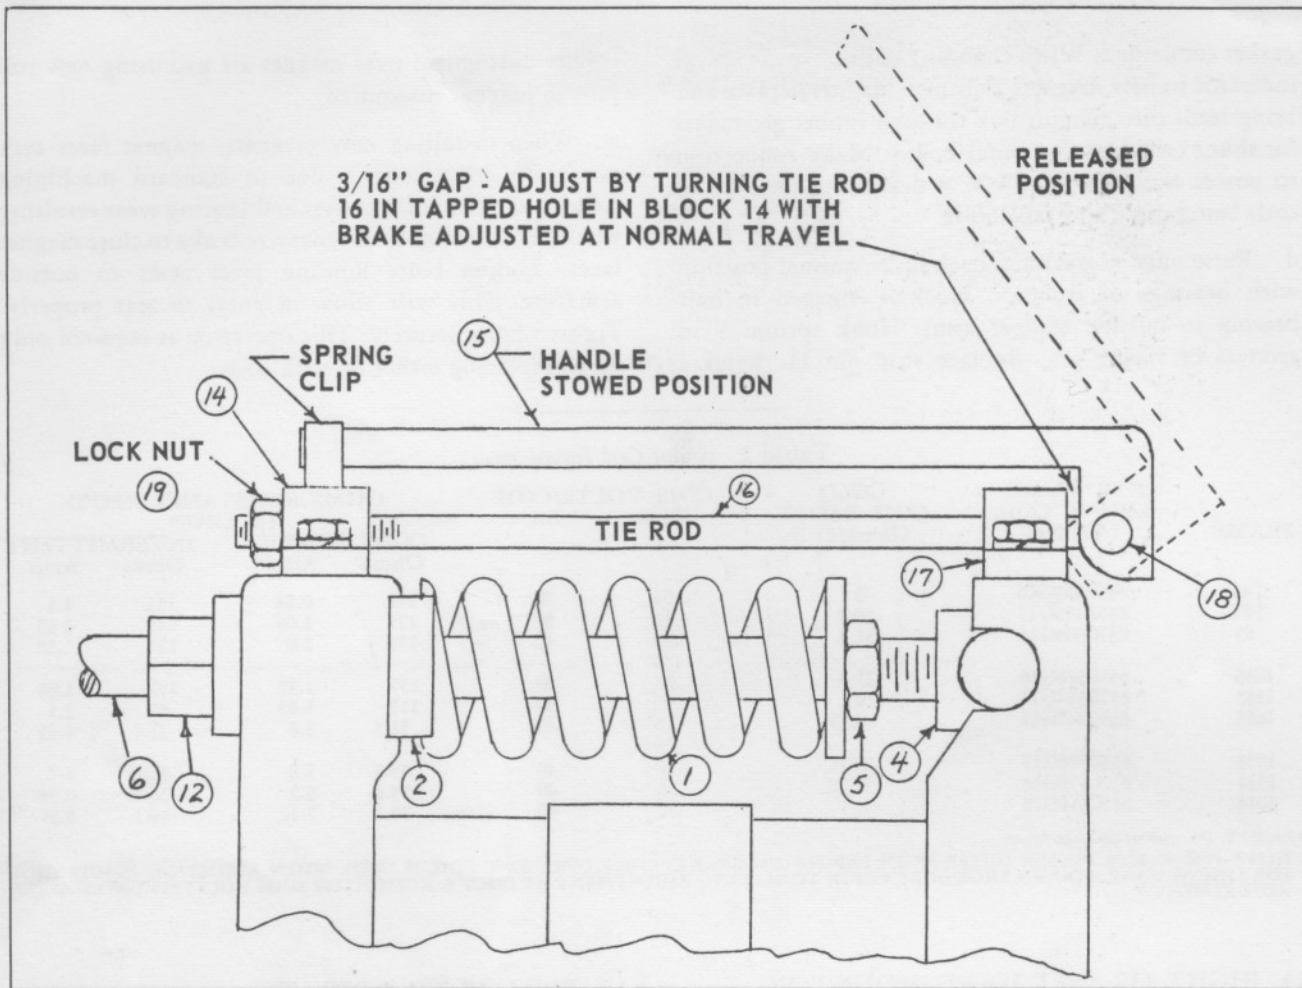

Fig. 5. Hand Release
When specified on order, a lever-type hand release is available as optional at extra cost. Figure 5 shows simple mechanism used on open brakes allowing quick release of brake torque as for lowering a load in case of power failure. The standard hand release is non-latching and only allows the minimum amount of shoe clearance to allow the wheel to turn. When brake must be released for longer time or with more shoe clearance as for maintenance or installation, release brake with bushing item 12.